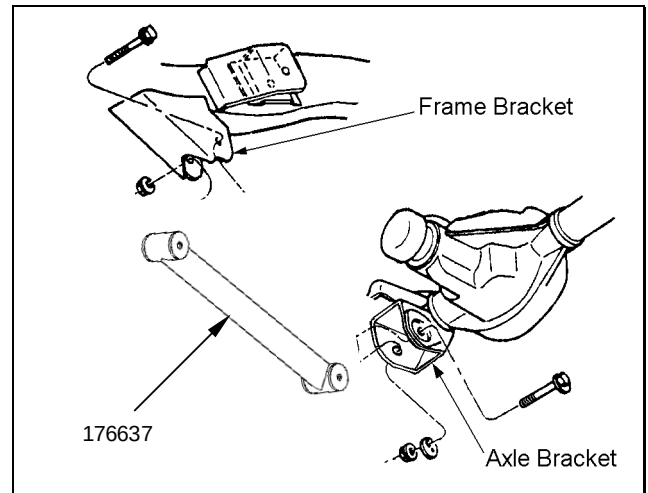

Figure 6
- 5) ☐ Install new Rancho suspension link 176637 to the frame and axle brackets as shown in figure 6. Use original hardware but do not tighten. Tightening the bolts at this point could create ride height issues.